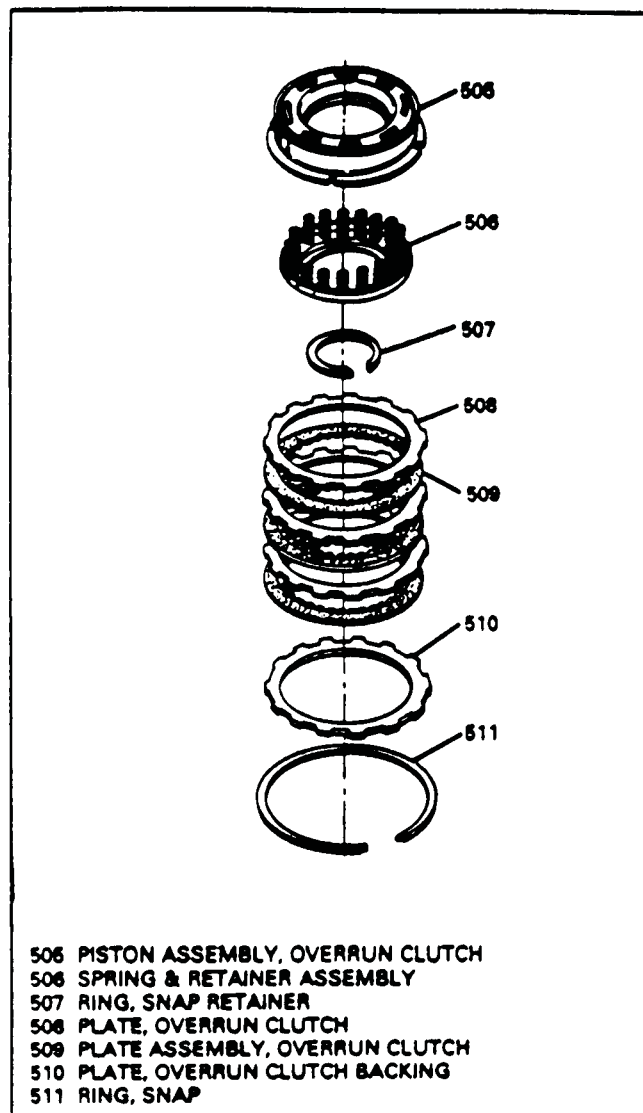

Figure 93
4. Remove the backing plate snap ring from the overrun clutch housing (Figure 93).
5. Remove the backing plate, and overrun clutches, 3 steel plates, and 3 lined plates, from the overrun clutch housing. (See Figure 93).
6. Compress the return spring assembly and remove snap ring (507), as shown in Figure 93.
8. Remove the "Moulded" overrun clutch piston from the overrun clutch housing. (See Figure 93).